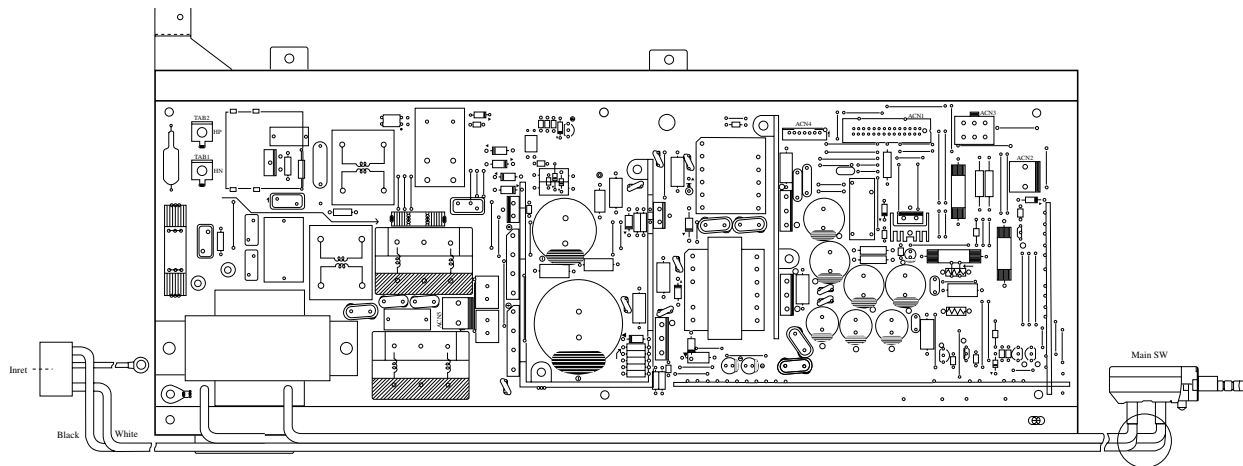

Fig. 4-38
4.6.3.2 Layout of Connector Pin Assignment (see Fig. 4-38)